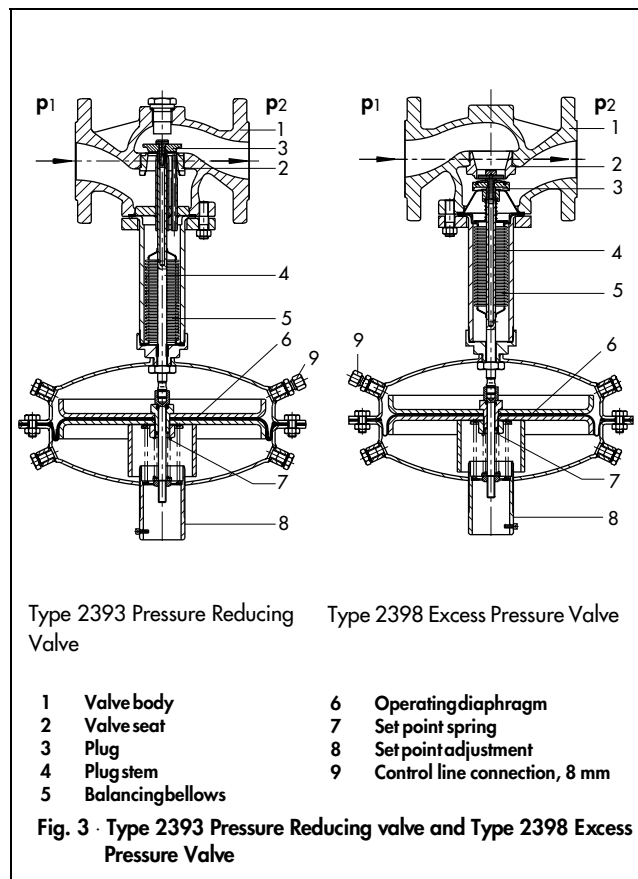

Fig. 3 · Type 2393 Pressure Reducing valve and Type 2398 Excess Pressure Valve
Depending on the version (pressure reducing valve or excess pressure valve as shown in Fig. 3), the valve closes or opens, resp. when the pressure to be controlled rises. This pressure is transmitted to the operating diaphragm (6) via the control line and respective connection (9), where it is converted into a positioning force. This force adjusts the plug stem (3) as a function of the operating spring force and can be adjusted using the set point adjustment.